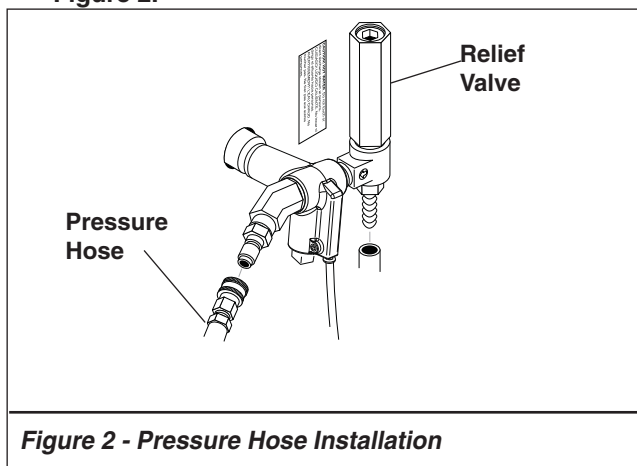

Figure 2 - Pressure Hose Installation
2. Install pressure hose on machine as shown in **Figure 2**.